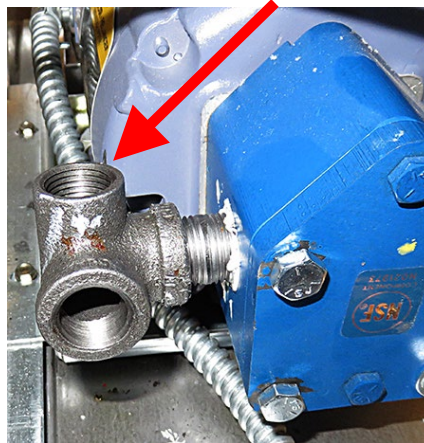

Figure 20
22. Apply Loctite and insert 1½" nipple (8130087) into the 90° elbow with outlet (8130331) and tighten and orient as shown (see Figure 20).